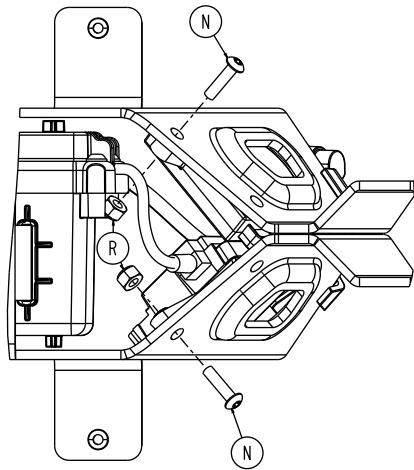

Figure 48 – Remove the wireless module screw and nut
7. Using a T25 Torx driver and a 3/8" combination wrench, remove the button head cap screw (N) and Fiberlock nut (R) that secure the wireless module, if equipped, and the NFMIC module to the cot, if equipped (Figure 48). Save the screw and nut.